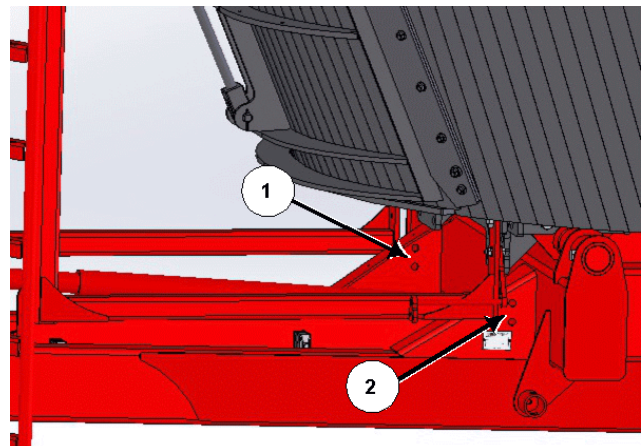

Figure 16: Relocate bulkhead fittings
17. Relocate the bulkhead fittings that are on the right-hand side (1) of the mixer frame to the left-hand side (2) of the mixer frame, as per *Figure 16*.
- a. Note: The conveyor is not shown in *Figure 16* for clarity.